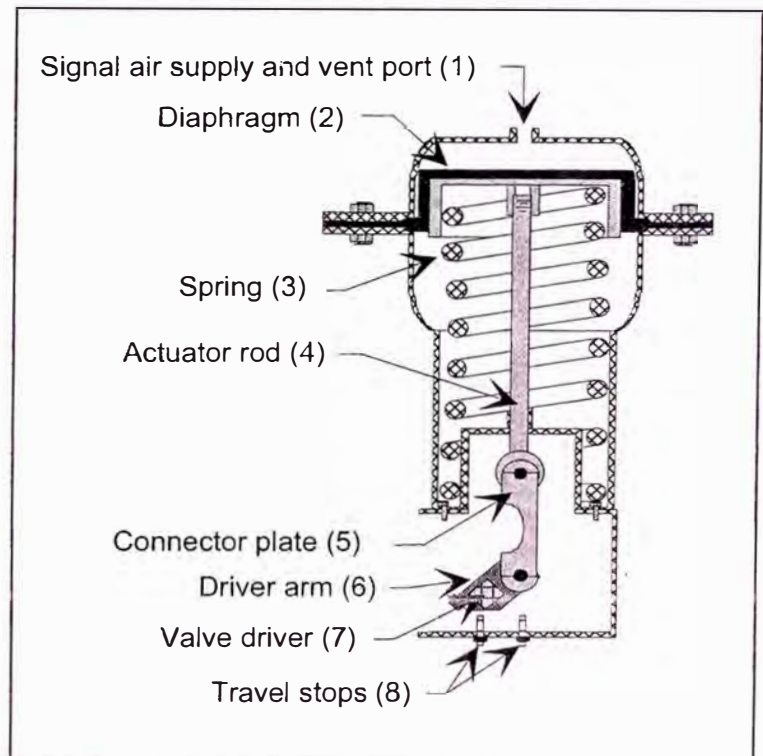

Figure 8. Actuator cross section
Refer to Figure 8 in following the principle of operation description. The positioner sends a power air signal to the supply and vent port (1) of the actuator. The PSIG of the power air is proportional to the 4 to 20 mA microcontroller output signal being fed to the positioner.